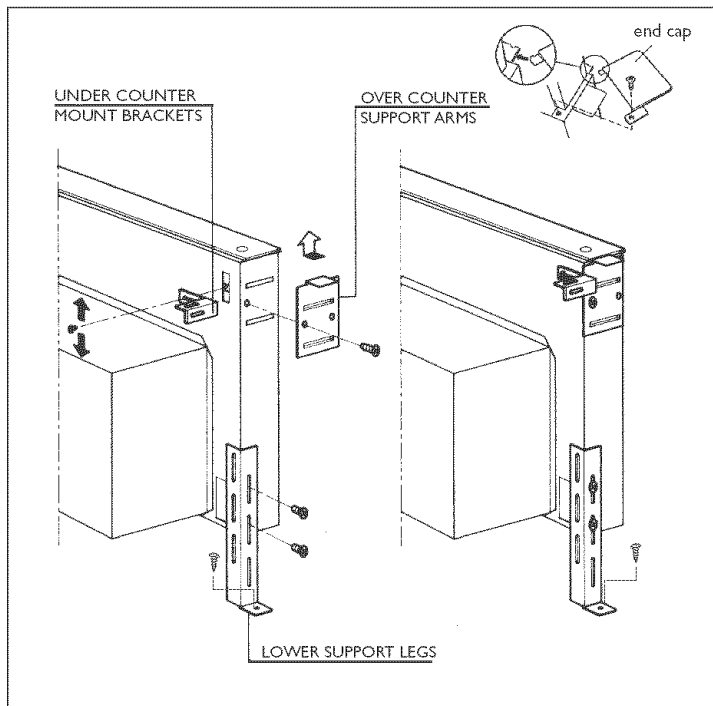

FIG.08
- 2) Attach the overcounter support arms to the left and right sides of the downdraft body as indicated in Fig. 08. Two short screws are provided. Attach the end caps to the left and right sides of the downdraft over the overcounter support arms. Attach the lower support legs to left and right sides of the downdraft into the threaded slots on each side.
- 10) Attach the downdraft to the countertop using the undercounter mounting brackets (Fig.08). This system is designed to adjust to different countertop thicknesses. Using the small Phillips head machine screws in the hardware package, attach one undercounter mounting bracket to the slot on the upper right corner of the unit. Attach the other end of the bracket to the underside of the countertop.